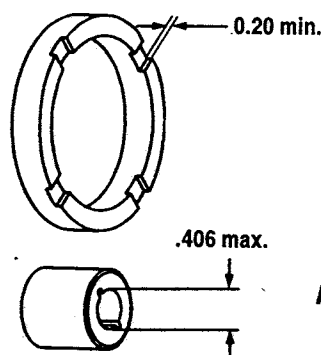

FIGURE 5
1. Check impeller drive bushing (Item 5), thrust ring, ceramic thrust ring and shaft for cracks, chips, scoring or excess wear. See Figure 5. Replace as required.